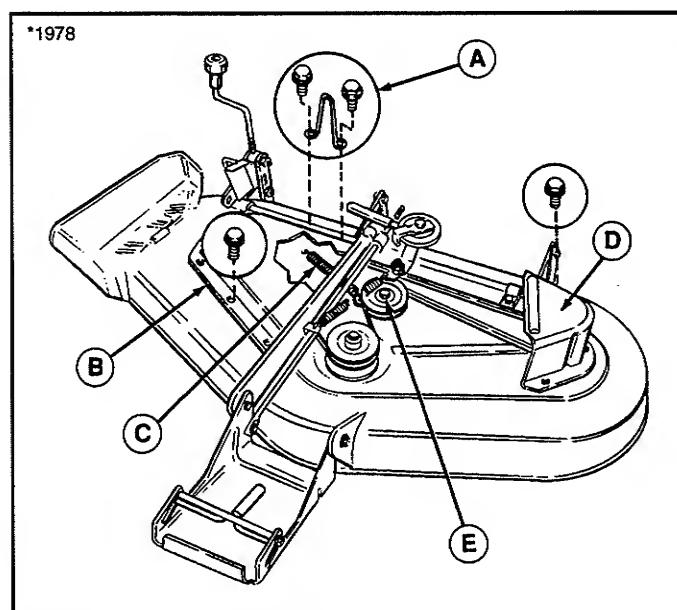

Figure 38. Mower Deck
4. Loosen nut and lockwasher securing bracket belt stop (C, figure 38) on idler pulley. Remove three capscrews securing left-hand arbor cover (D, figure 38).
8. Install spring (C, figure 38) to slot in mower deck. Tighten capscrew securing idler pulley.